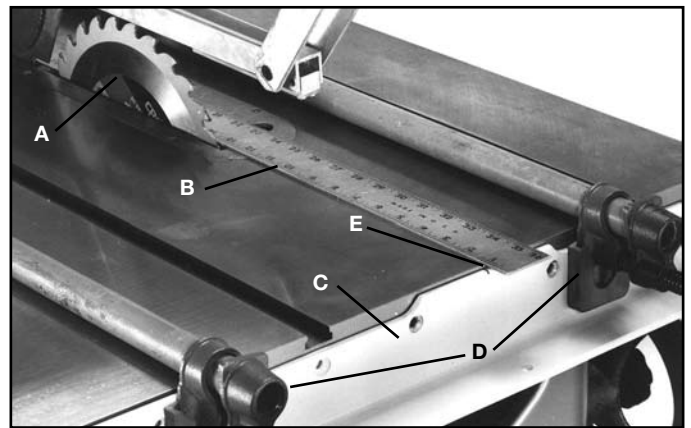

FIG. 15
1. Raise saw blade (A) Fig. 15. Place a straight edge (B) against the right side of saw blade extending out over the front of the saw as shown. Position front rail (C) against the edge of saw table and lightly clamp in place using bar clamps (D). Align notch (E) in front rail (C) with the straight edge (B) as shown. **NOTE: Any portion of the notch needs to align with the straight edge. Final calibration will be explained later.**